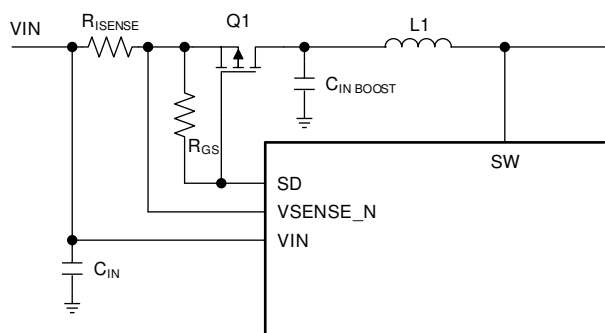

图 14. Power-Line FET Control Schematics
The LP886x-Q1 has a power-line FET control feature. It has a control pin (SD) for driving the gate of an external power-line P-Channel MOSFET. This feature grants LP886x-Q1 the ability to immediately cut-off the power part of backlight system when failure occurs, protecting other parallel power systems from being impacted. In addition, the feature could smooth the inrush current during powering-up by turning on the power-line FET gradually. In SOFT START state, the SD pin slowly increases the sink current until it reaches 230 μA. An example schematic is shown in 图 14.